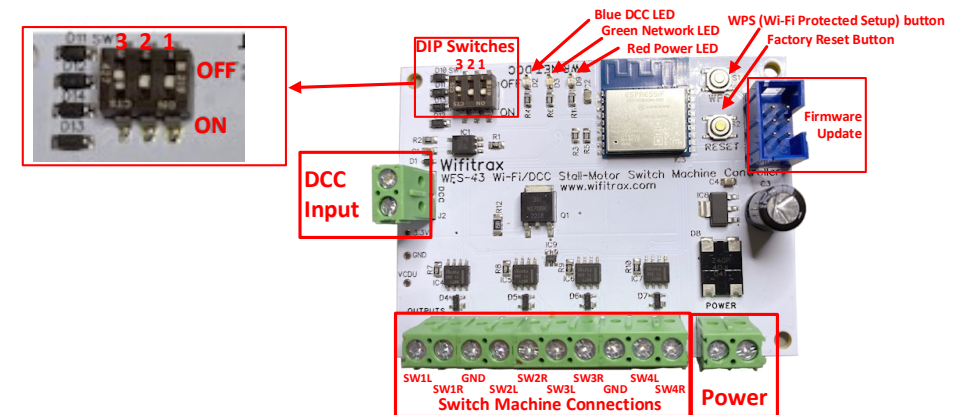

Figure 1 WFS-43 Connections
The WFS-43 supports DCC being connected directly to the module. To control turnouts with DCC via the WFS-43, connect your DCC track power to the DCC Input shown in Figure 1.
- (2) Figure 1 shows the WFS-43 module with its connections and switches labelled. Configure the DIP Switches on your module to provide a suitable output voltage as in Table 1. Do not set the voltage too high for the switch machine in use. If in doubt start with the lowest voltage and increase until it works. The output voltage cannot be higher than about 3 volts less than the supply voltage.